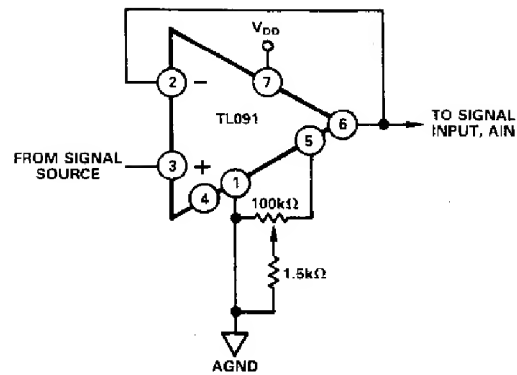

Figure 13. Offset Adjust Circuit
3. **OFFSET ERROR:** Offset error adjustment in single-supply systems may be easily achieved by means of the offset null facility of an op-amp when used as a voltage follower for the analog input signal AIN (see Figure 13). The op-amp chosen should be able to operate from a single supply and allow a common-mode input voltage range that includes 0V, e.g. TL091. To adjust for zero offset error the input signal source is set to +4.8mV (i.e., $\frac{1}{2}$ LSB) while the 100k Ω potentiometer is varied until the ADC output code flickers between 000...00 and 000...01.